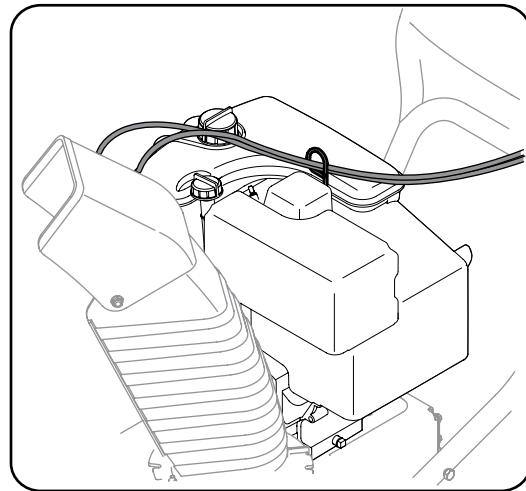

Figure 3-7
4. Check that the chute cables are properly routed through the cable guide on top of engine shroud. See Figure 3-7.